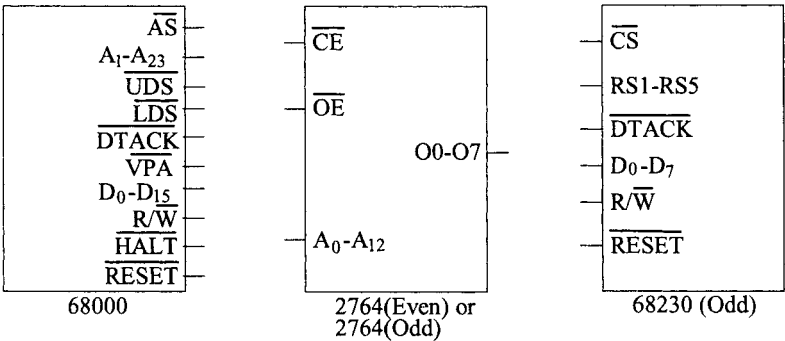

FIGURE P10.33
- 10.33 Assume the pins and signal shown in Figure P10.33 for the 68000, 68230 (ODD), 2764 (ODD and EVEN). Connect the chips and draw a neat schematic. Determine the memory map and I/O map